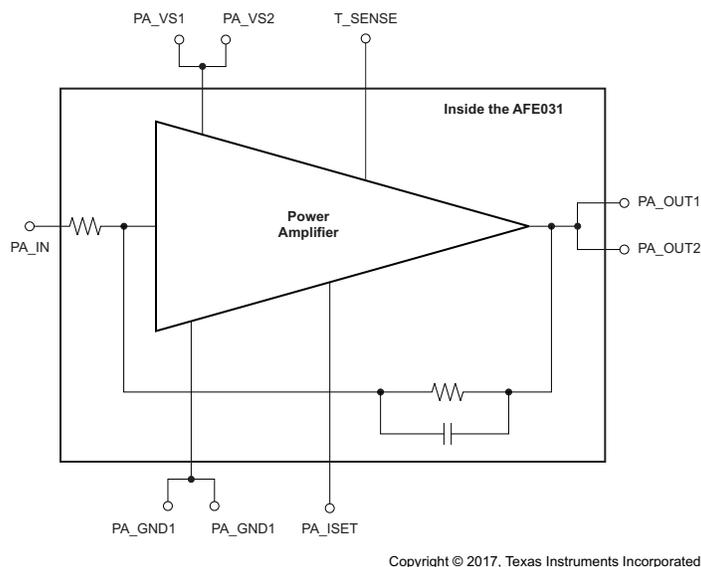

Figure 24. PA Block Equivalent Circuit
The Power Amplifier (PA) block consists of a high slew rate, high-voltage, and high-current operational amplifier. The PA is configured with an inverting gain of 6.5 V/V, has a low-pass filter response, and maintains excellent linearity and low distortion. The PA is specified to operate from 7 V to 24 V and can deliver up to  $\pm 1.5$  A of continuous output current over the specified junction temperature range of  $-40^{\circ}\text{C}$  to  $+125^{\circ}\text{C}$ . Figure 24 illustrates the PA block.